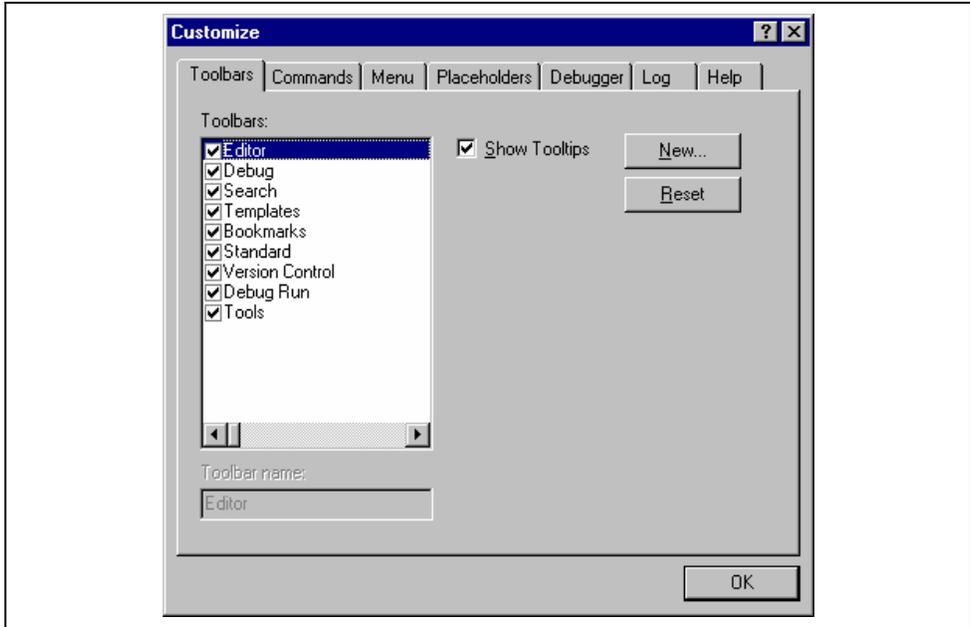
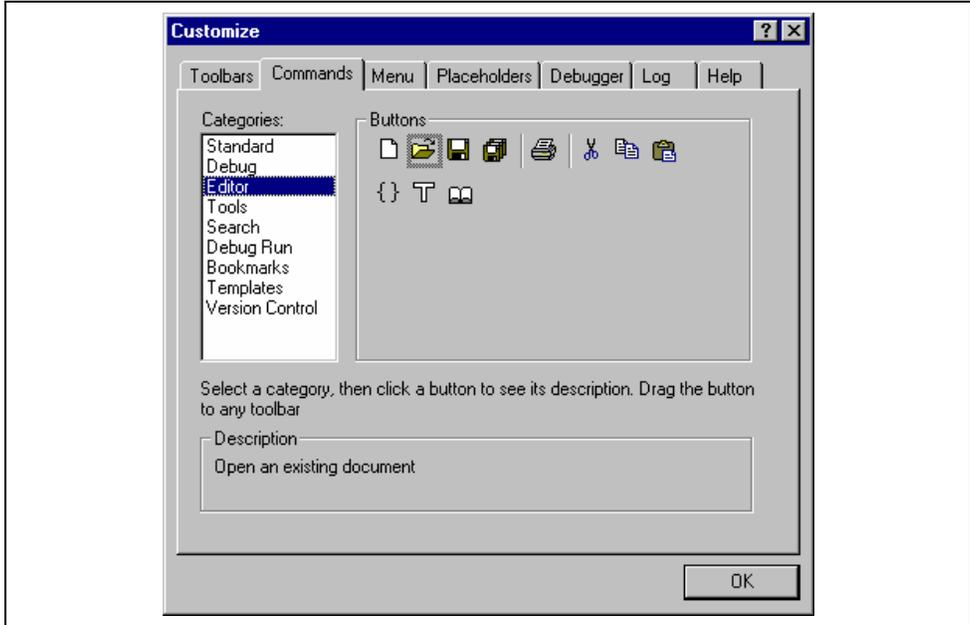
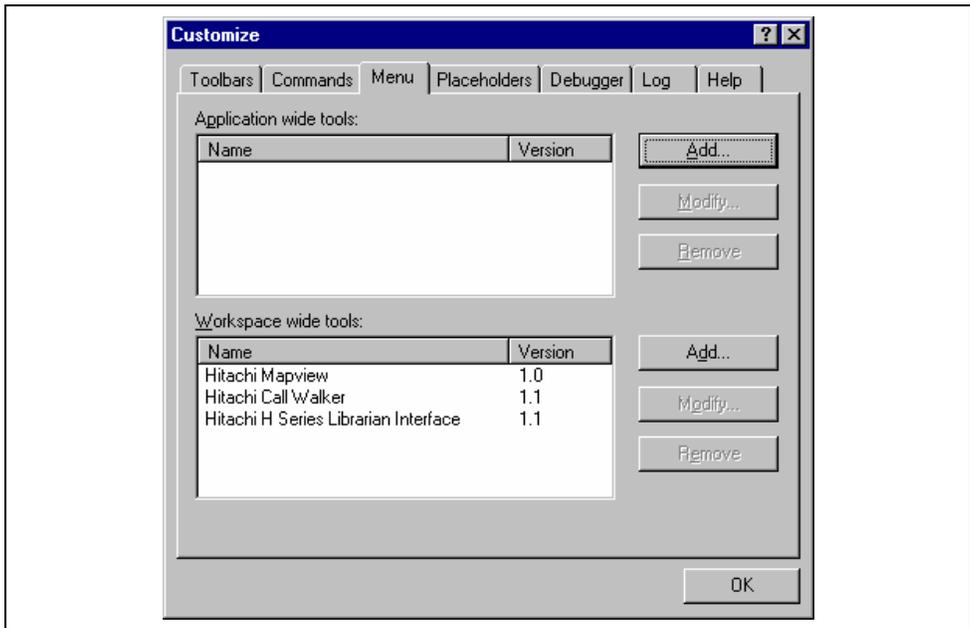
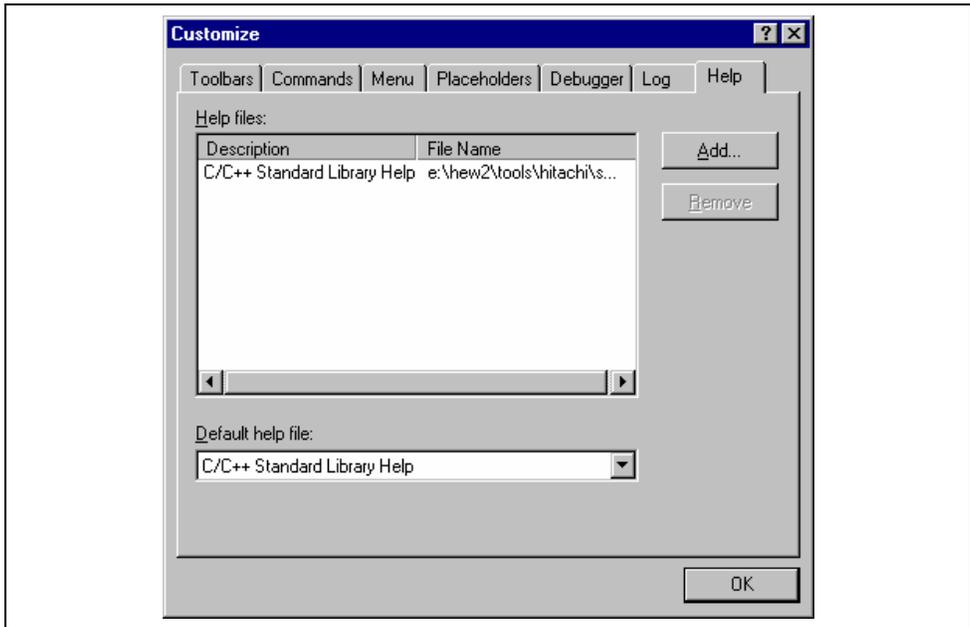

Figure 6.1: Customize Dialog Toolbars Tab
Figure 6.3: Customize Dialog Commands Tab
Figure 6.4: Customize Dialog Menu Tab
Figure 6.7: Customize Dialog Help Tab
The High-performance Embedded Workshop provides 2 standard toolbars as detailed in chapter 1, “*Overview*”. In addition to these, you may also construct your own toolbars via the “Customize” dialog (figure 6.1).
1. Select [**Tools->Customize...**]. The dialog shown in figure 6.1 will be displayed.
1. Select [Tools->Customize...]. The dialog shown in figure 6.1 will be displayed. Select the “Commands” tab (see figure 6.3).
1. Select [**Tools->Customize...**]. The dialog shown in figure 6.1 will be displayed. Select the “Commands” tab (see figure 6.3).
2. Select the user-defined toolbar from the “Toolbars” list, and the “Reset” button in figure 6.1 changes to the “Delete” button. Then click the “Delete” button.
1. Select [Tools->Customize...]. The dialog shown in figure 6.1 will be displayed. Select the “Menu” tab (see figure 6.4). The first thing for you to decide is whether you are adding a global application wide tool (“Application wide tools:”), which will be available to all of your workspaces. Or whether you wish to add a workspace wide tool (“Workspace wide tool:”), which is only valid for the current workspace. Once you have made the choice choose the relevant section of the dialog.
1. Select [**Tools->Customize...**]. The dialog shown in figure 6.1 will be displayed. Select the “Menu” tab (see figure 6.4).
1. Select [**Tools->Customize...**]. The dialog shown in figure 6.1 will be displayed. Select the “Help” tab (see figure 6.7).